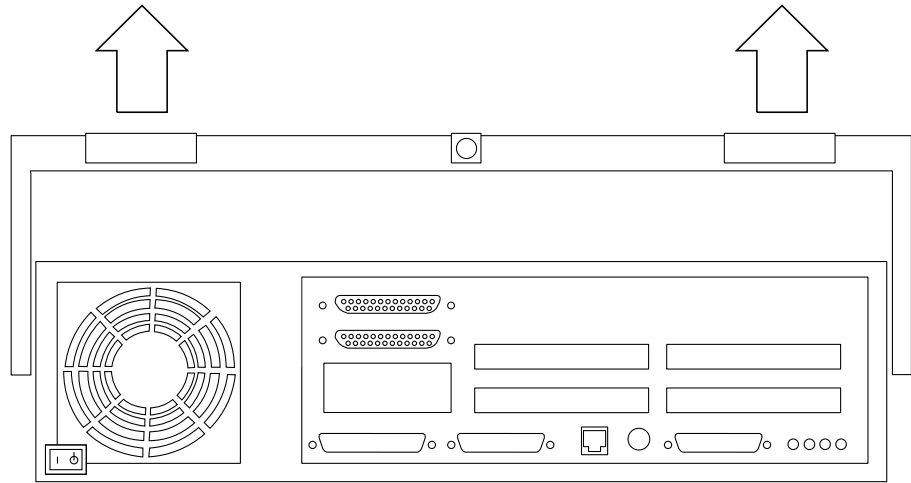

Figure 2-4 Lifting the Top Cover
- 3. Lift the top cover so that it clears the chassis, and push the cover forward so that it clears the chassis (Figure 2-4).**